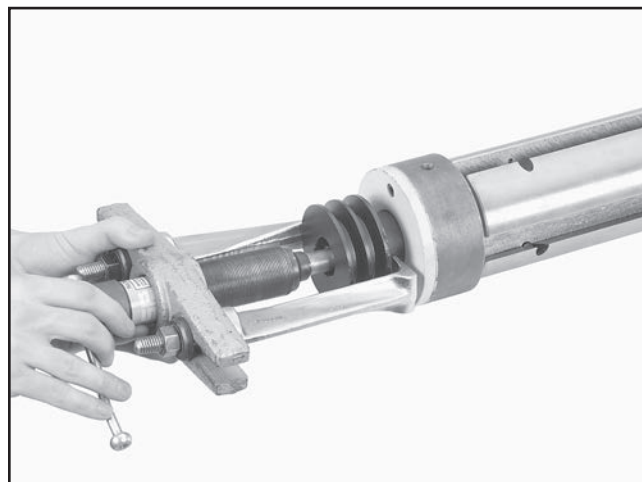

Figure 12. Removing pulley.
21. Remove the left-hand thread hex bolt and flat washer that secure the pulley, use a pulley puller to remove the pulley from the cutterhead (**Figure 12**), then remove the key.